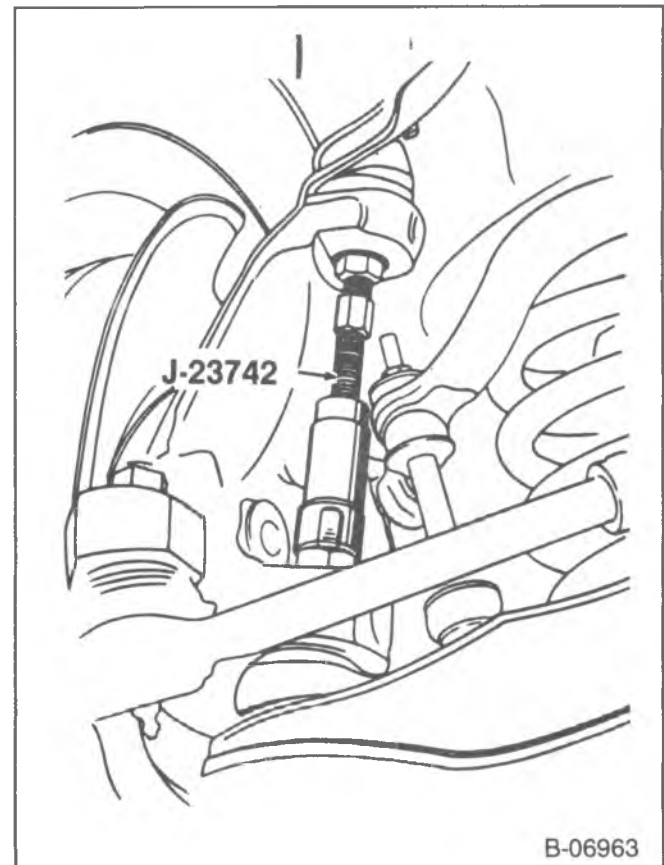

Figure 15—Disconnecting the Upper Ball Joint
3. Hub/Rotor (81).
4. Splash shield (71).
- Bolts (83) and washers (84).
- Gaskets (85).
6. Steering knuckle (70) from the upper ball joint (13).
- Position a floor jack under the lower control arm (36) near the spring seat.
- Use J-23742 to break the upper ball joint free of the steering knuckle (figure 15).
- Raise the upper control arm (28) to disengage the upper ball joint from the steering knuckle.